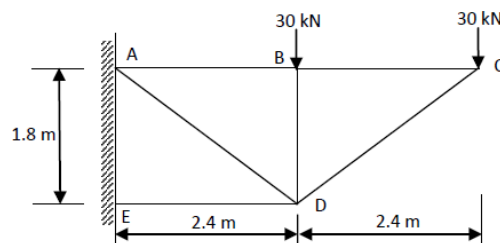

Fig.27
1. Find the forces in the members of a truss as shown in fig.27 [L1] [6M]